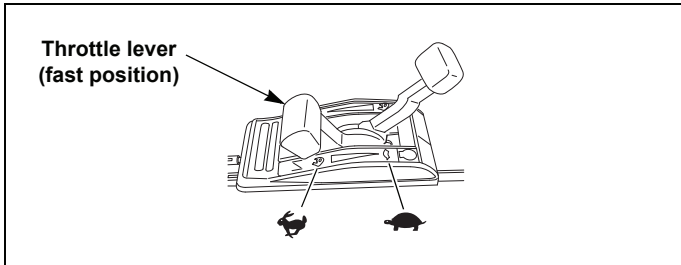

Fig. 4-22
5. Allow the engine to warm up before mowing. Set throttle lever to the “FAST” position when mowing. Fig. 4-22